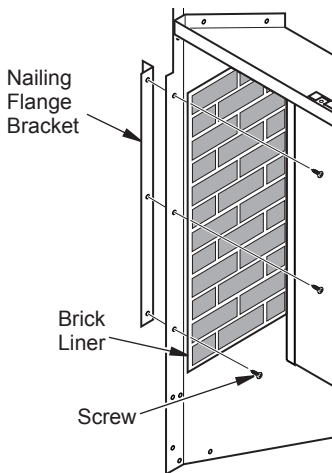

Figure 4 - Attaching Nailing Flange Brackets Framing
- Locate 3 prepunched clearance holes in each side of fireplace. Press screws through brick liner, then attach nailing flange brackets to each side of fireplace (see Figure 4).